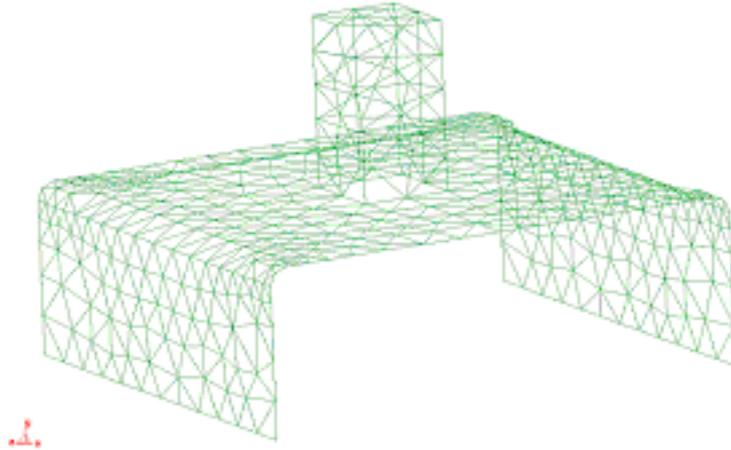

Figure 2. Meshing by default.
- 3 . A meshing process window opens. Then another window appears with information about the mesh generated. Click **OK** to visualize the mesh (see Figure 2).